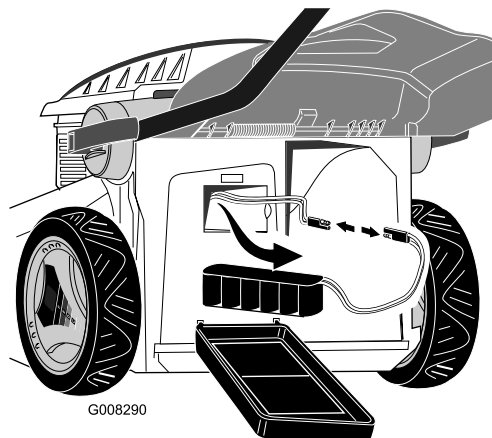

Figure 26
2. Remove the battery from the compartment and disconnect the battery cable from the mower cable (Figure 26).